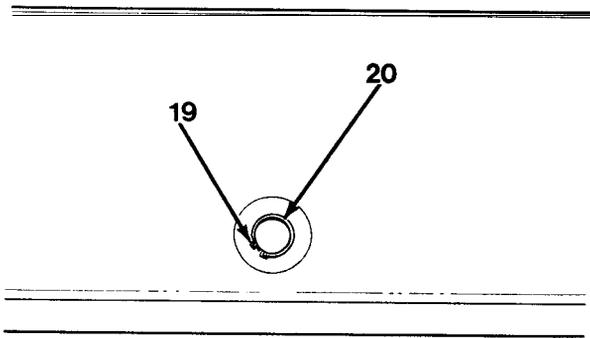

Figure 15-9
13. Install pin (20) and snap ring (19, Figure 15-9).